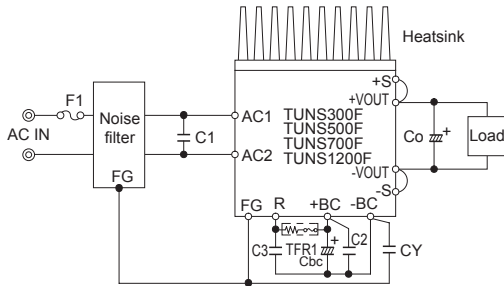

Fig.1.1 Connection for standard use
- To use TUNS series, connection shown in Fig.1.1 and external components are required.